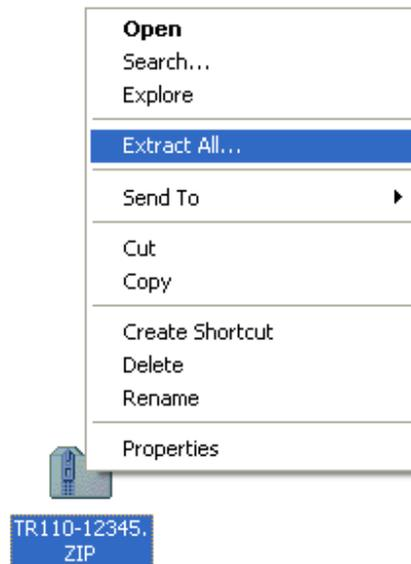

Figure 30 - Extracting compressed software
2. If the software is embedded in a compressed file, first decompress it. Current operating systems should be able to decompress it without additional software (see Figure 30). If not, you will easily find some free software on the Web to decompress it.